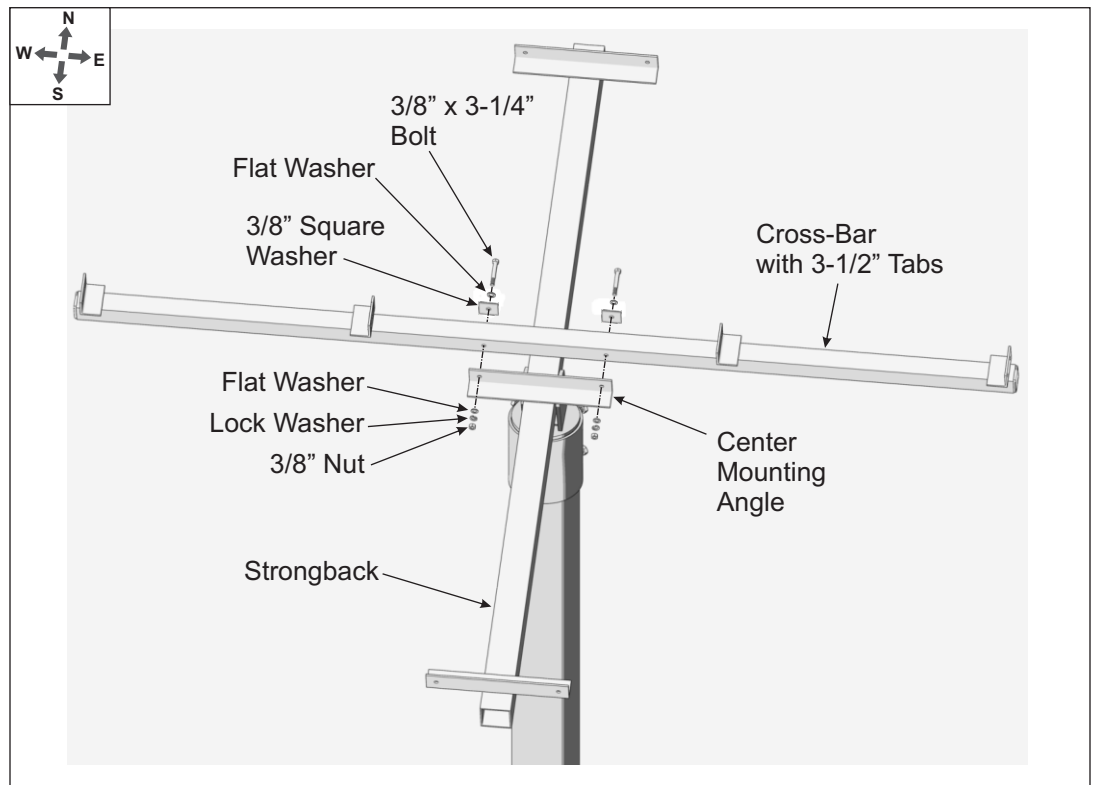

Figure 3-3: Installing Cross-Bars on the Strongback
- Starting at the N-S center position of the Strongback, install the Cross-Bar with the 3-1/2" long mounting tabs. (See Figure 3-3)